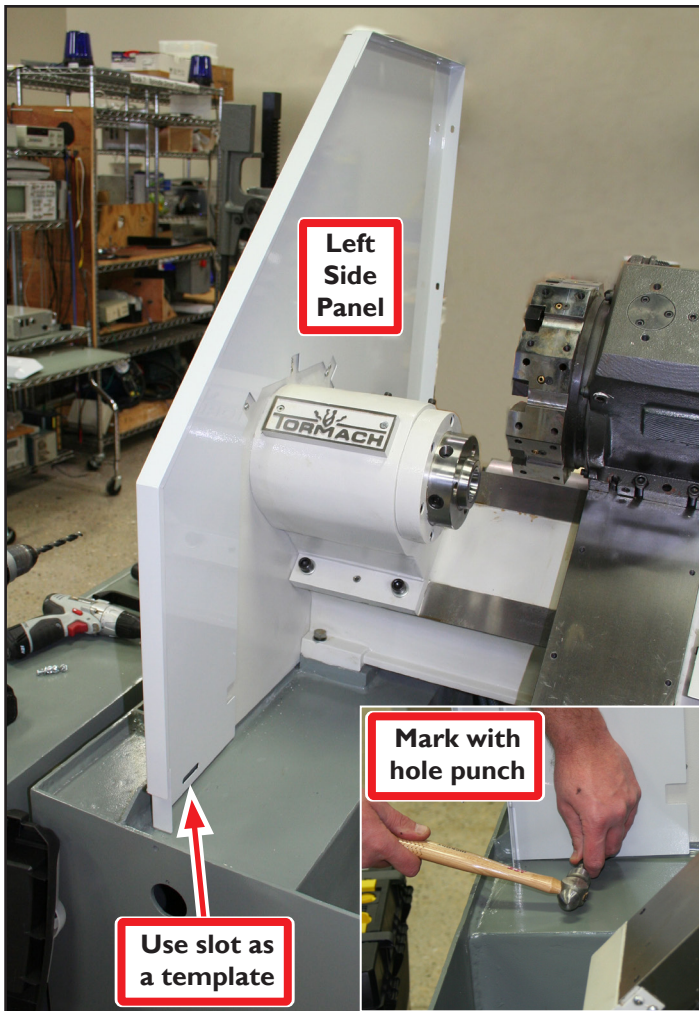

Figure 1
- I. Using Left Side Panel as a template, temporarily place it on lathe as shown in **Figure 1**. Hold it in place by loosely attaching panel's back corner to lathe using one M8 × 12 mm Socket Head Cap Screw. Using a level, confirm panel is level (see **Figure 2**). Mark a drill hole through slot with a hole punch as shown in **Figure 1 inset**. Using the (included) 3/8" Drill, drill a hole through the lathe casting (see **Figure 3**). Remove panel for installation later.